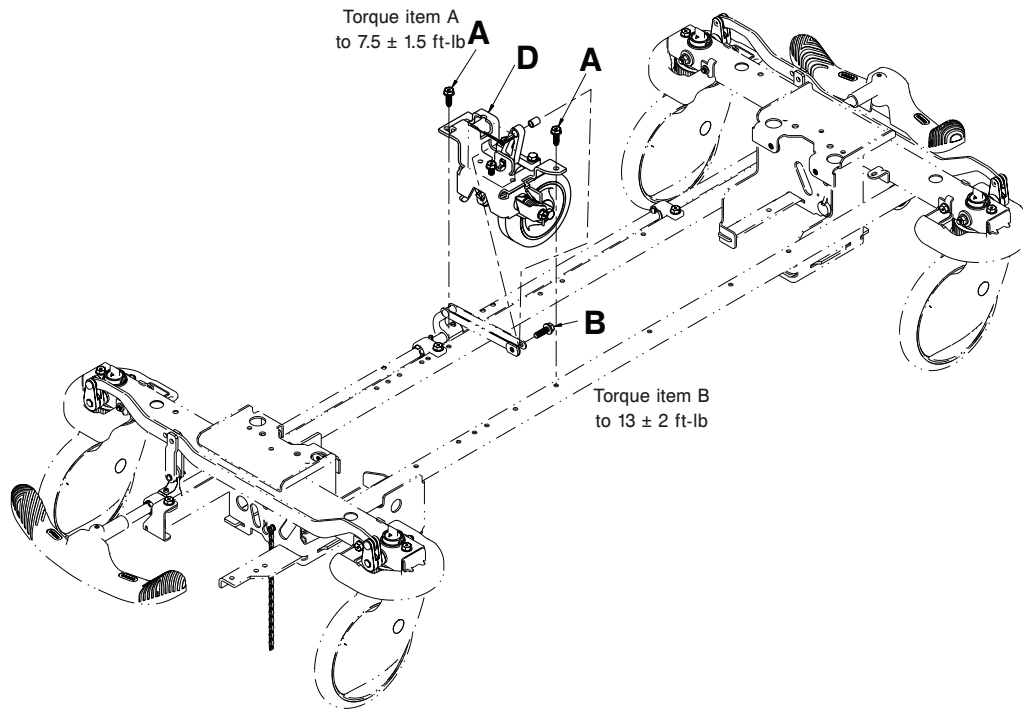

Figure 8 – Replace the fifth wheel assembly
4. Using a 1/2" socket with a 3/8" drive ratchet, remove the hex washer head screw (B) that holds the fifth wheel cam drive link to the cam (Figure 8).